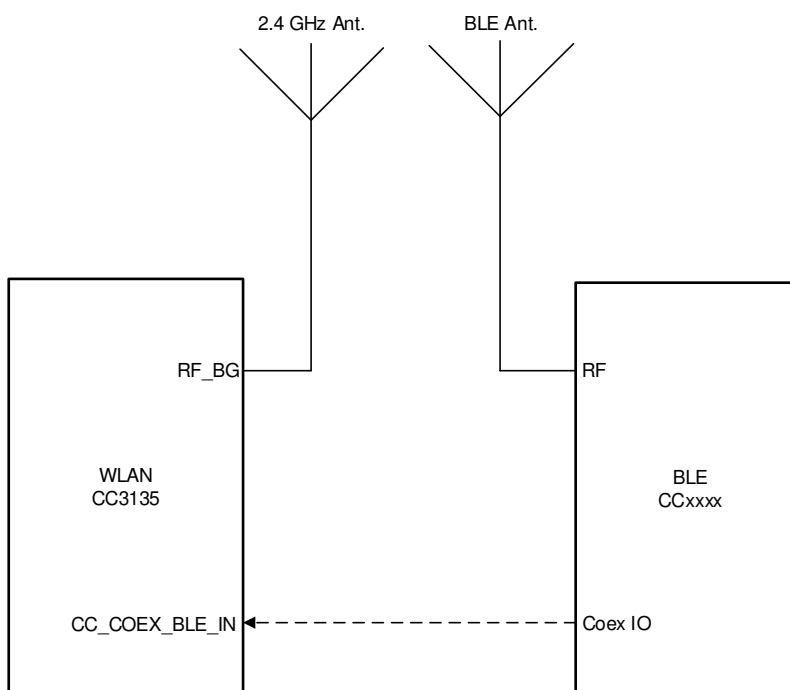

Figure 9-3. Dual-Antenna Coexistence Mode Block Diagram
- 2.4GHz Wi-Fi Band (see Figure 9-3)
Figure 9-3 shows the dual antenna implementation of a complete Bluetooth® low energy and WLAN coexistence network with the WLAN operating on either a 2.4- or a 5GHz band. Note in this implementation no Coex switch is required and only a single GPIO from the BLE device to the CC3135 device is required.